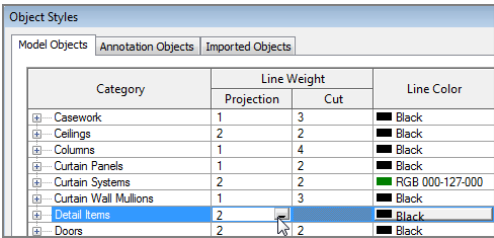

FIGURE 12.45: Changing the Detail Items Projection Line Weight to 2
- 3. Change the Projection Line Weight to 2, as shown in Figure 12.45.